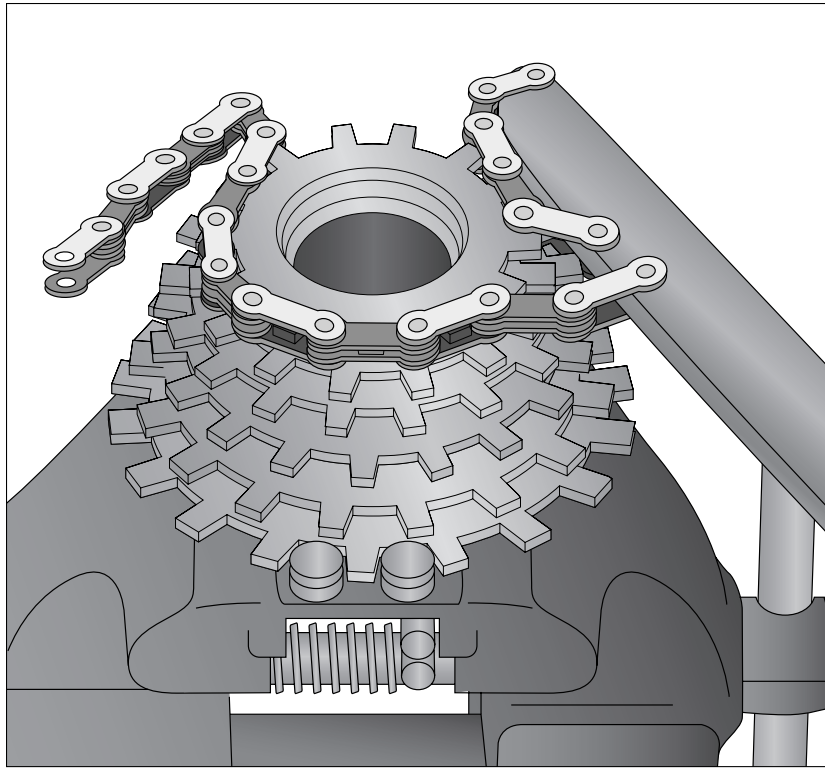

Figure 11-8:
3. **Turn the chain whip in a counterclockwise direction to remove the cog (as shown in Figure 11-8).**